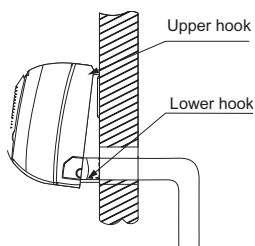

Fig. 19 —Indoor Unit Installation
8. Push lower part of indoor unit up on wall, then move indoor unit from side to side, up and down to check if it is hooked securely (see Fig. 19).